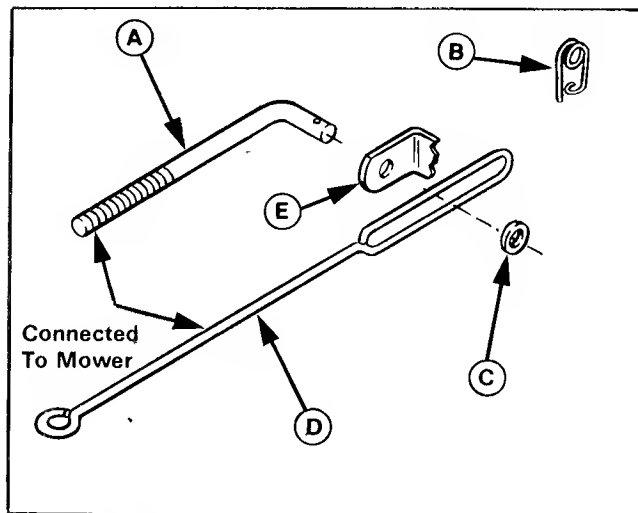

Figure 13.
4. Insert PTO rod (A, figure 13) through bracket (E) and brake rod (D) and install washer (C) and pin (B).